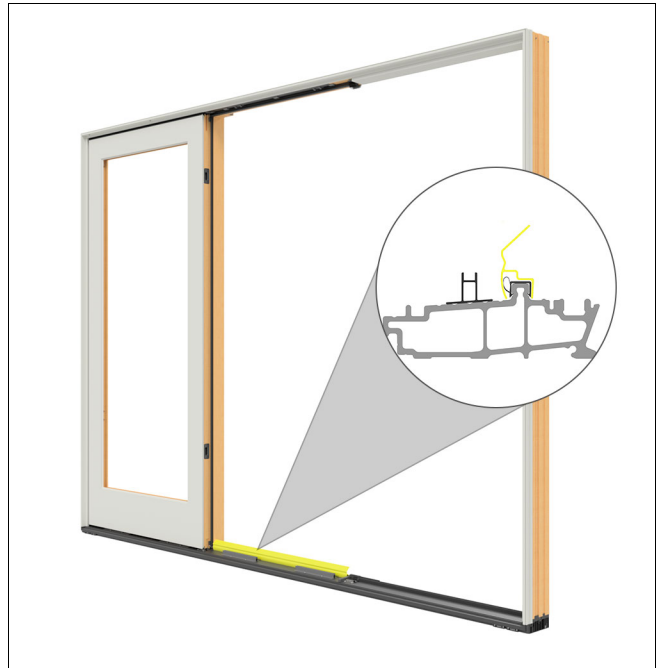

Figure 62
10. Doors with Performance sills: Remove the weatherstrip jig from the exterior side and install on the interior side. See Figure 62.